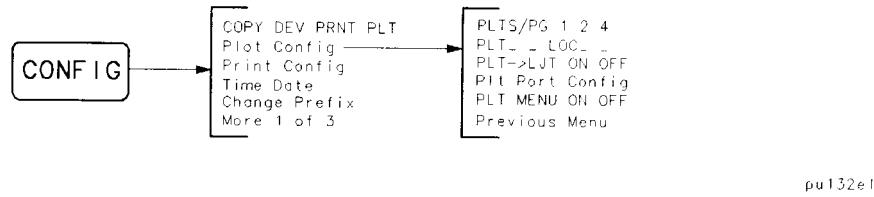

Figure 6-7. Plot Configure Menu
6. Referring to Figure 6-7 select the plotter configuration for your spectrum analyzer by pressing the appropriate keys: